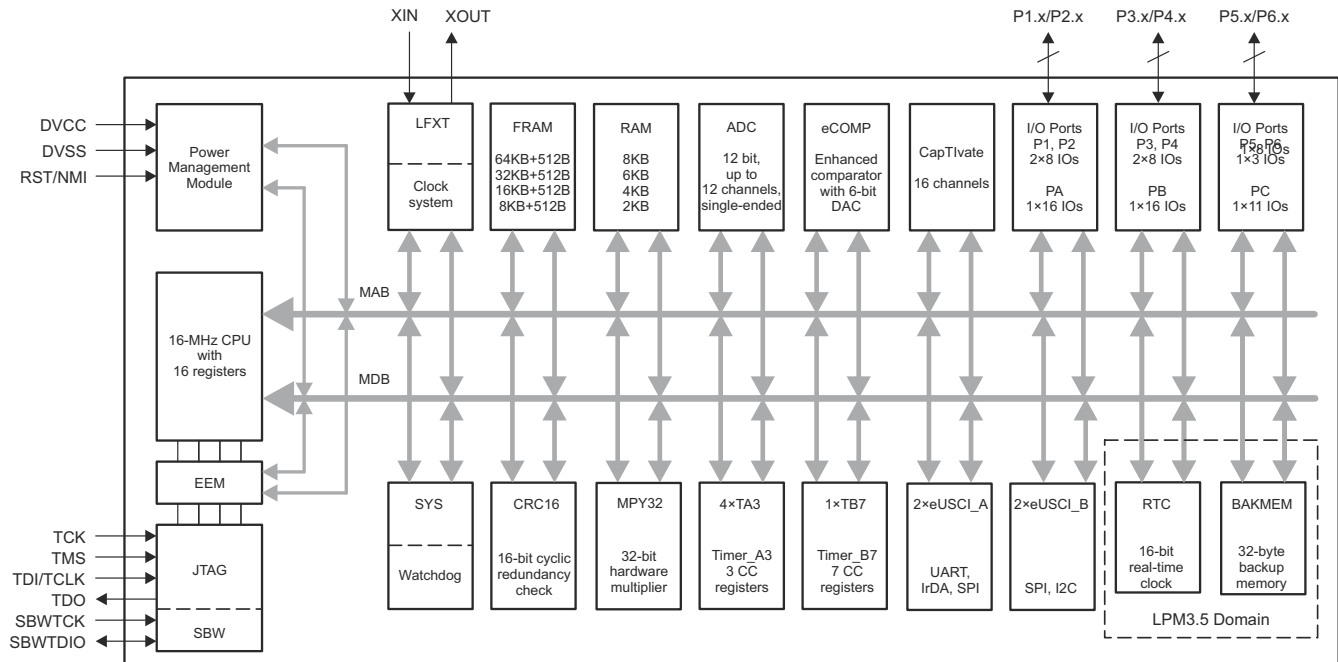

Figure 4-1. Functional Block Diagram
Figure 4-1 shows the functional block diagram.
- Added memory sizes for MSP430FR2673 and MSP430FR2672 in Figure 4-1, *Functional Block Diagram* **4**